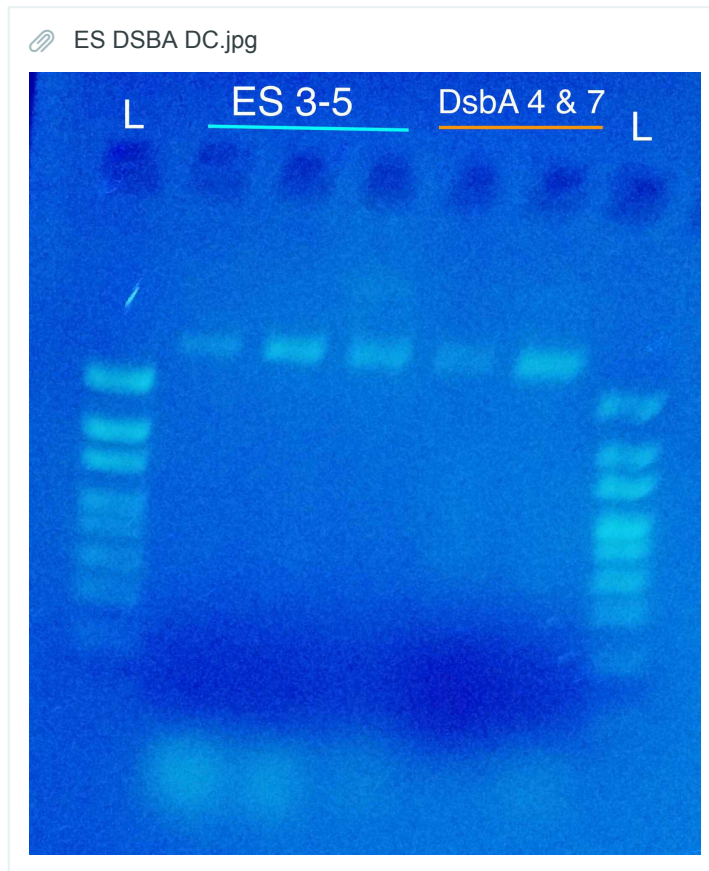

Figure 2. digest confirms of ES 3,4,5 and DsbA 4, 7 (100 bp biobasic)
**Figure 2.** 2% Agarose gel of pSB1C3-DsBA and pSB1C3-ES cPCR reactions of DsBA and ES gBlocks ran at 100V for 30 min. cPCR reactions used VR and VF2 primers and proceeded as per the "colony PCR" protocol. pSB1C3-DsBA and pSB1C3-ES ligation products (#AMOUNT OF DNA) that were ligated in a 3:1 (insert:backbone) ratio were transformed into chemically competent DH5α cells as per the "Bacterial Transformation" protocol. Ladder - NEB 1kb plus | Lanes 2-10: pSB1C3-DsBA | Lanes 11-14: pSB1C3-ES.
Figure 2. Micha's Gel ( L | CBR 1-10 | HCAR 1-8| L) Bottom: (L| HCAR 9-10 | PPH 1-10 | Chemically Competent DH5-a | Empty Vector (CBR 4.1 miniprep) | cPCR Mastermix | L )